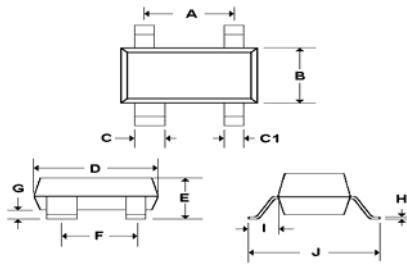

**Figure 1**
- Peak Pulse Power: 500 watts (8/20 μs, Figure 1)